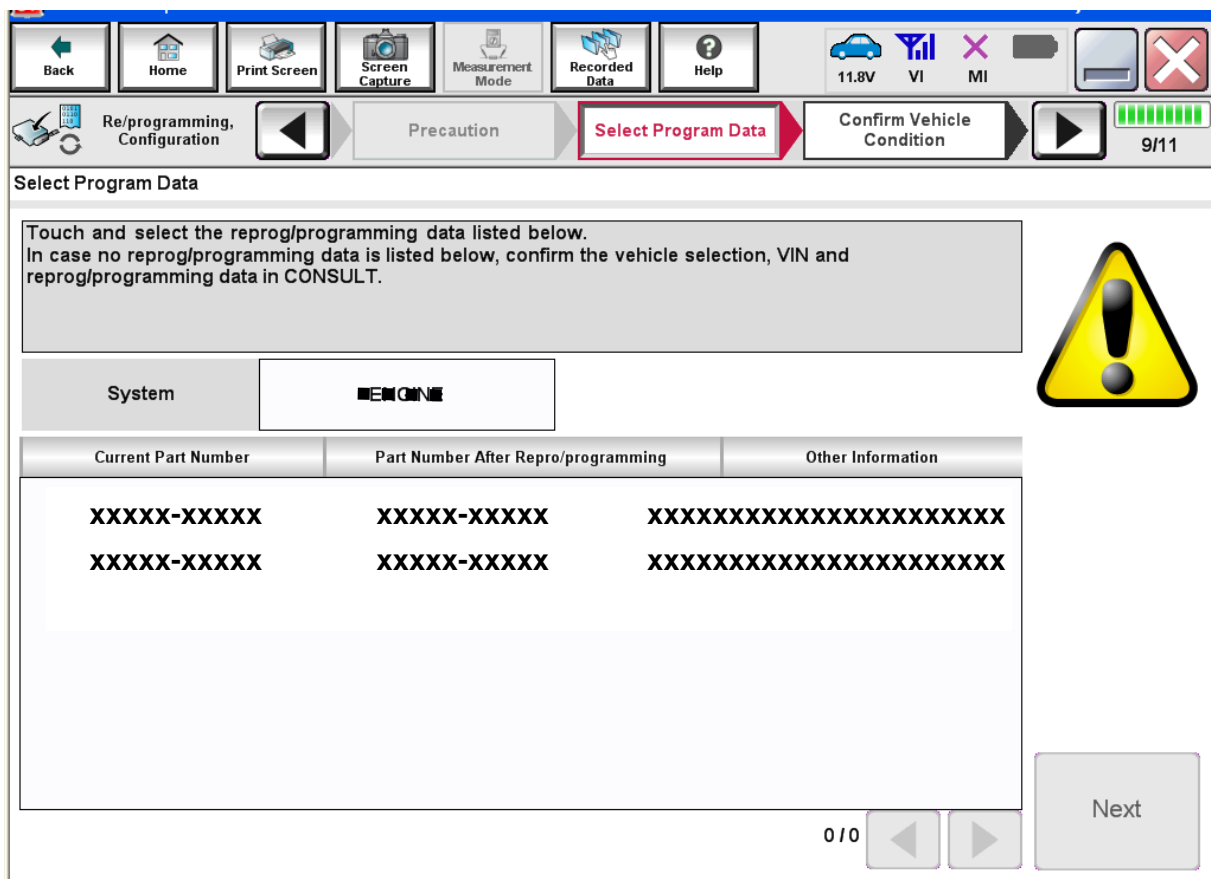

Figure 14a
- a. In this case, the screen in Figure 14a displays.